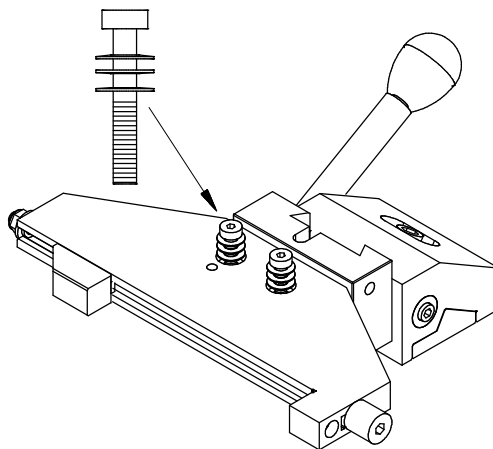

Figure 3
STEP 3. (A). Apply ample silicone grease on the cam and insert it into the cam hole. **(B).** Apply silicone grease on the stainless steel ball bearing and place it in the countersunk pocket. **(C).** Apply silicone grease to ceramic pads on the work piece holder.
STEP 4. PREPARING THE CLAMP SCREWS. Insert each clamp screw into three Belleville springs back-to-back, front-to-front, properly as shown as shown in Fig 3.
STEP 5. Place the work holder, in this case a V06 six inch vise, over the matching holes of the TD01 and allow the cam and ball bearing to seat into place as shown in Fig. 3.
STEP 6. (A). Steady the work holder with a free hand. **(B).** Insert the clamp screws into their respective holes in the work holder. **(C).** Turn the screws in with the hex driver until they bottom out. **(D).** Turn the screws in with the hex driver until they bottom out. **(E).** Then reverse each screw 1/4 turn. The proper spring pressure for truing is now achieved.